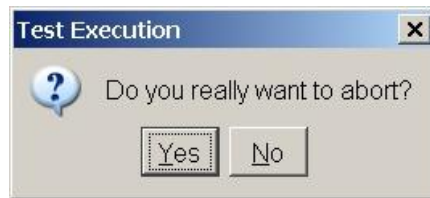

Figure 10 Stop testing pop-up
- 2 Press **Yes** when asked if you want to abort (see Figure 10).